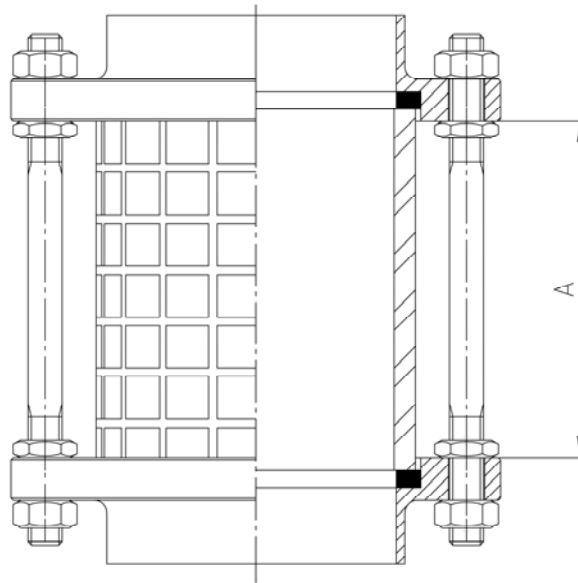

Fig. 2 Cylinder sight glass , adjustment dimension A
- Determine adjustment dimension A (see Fig.2).
- Remove hexagon nut (7) from one side.
- Axially disassemble the connection socket (1 or 2), gaskets (4) and glass cylinder (3).
- Install the glass cylinder (3) centred.
- If the fitting is not tight, loosen the hexagon nut (8) and tighten the hexagon nut (7) evenly.